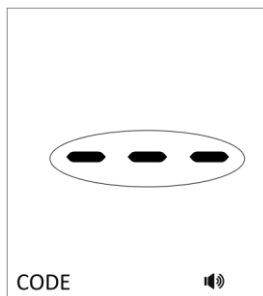

Fig 5.7
- Turn on: After the battery is properly installed, press the power button to turn on the Meter and enter the code chip interface. (Ref Fig 5.7).
**Note:** If the code chip is not properly inserted into the code chip slot, or if it is missing, the meter will display three dashes “---” as Fig 5.7.